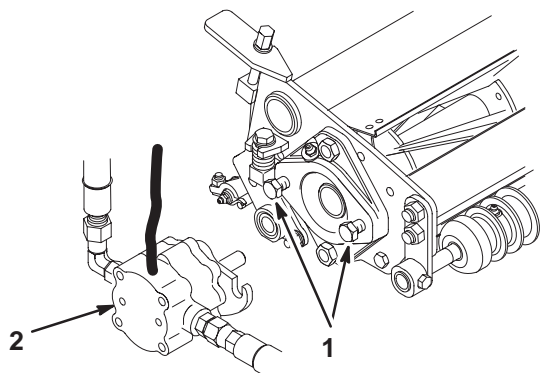

Figure 14
- Assemble the mounting capscrews for the reel drive motor to each cutting unit. Leave approximately 1/2 in. (13 mm) of threads exposed on each mounting capscrew (Fig. 14).
- Coat the spline shaft of the motor with clean grease and install the motor by rotating the motor clockwise so that the motor flanges clear the studs. Rotate the motor counterclockwise until the flanges are encircling the studs. Tighten the mounting capscrews (Fig. 14).